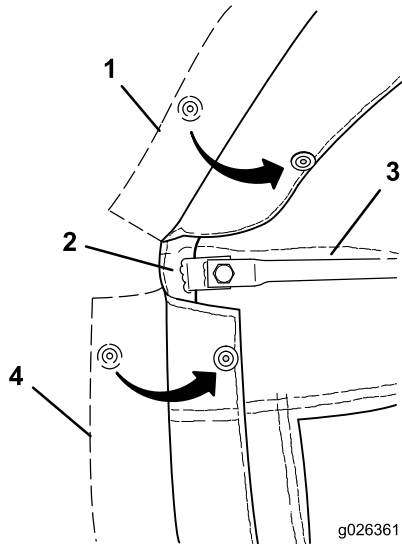

Figure 12
2. Slip the cover over the frame assembly and close the snaps to secure the cover around the top and rear frames (Figure 12).